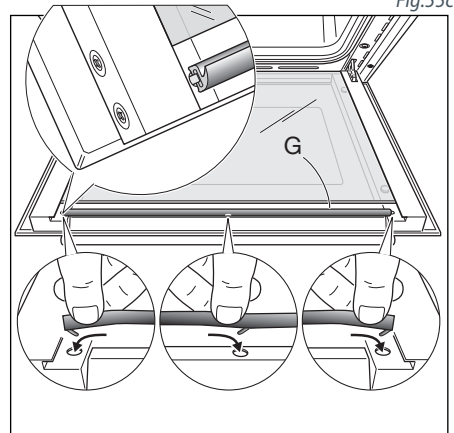

Fig.55d
- Remove the seal "G" by unhooking the three fixing hooks (Fig. 55d).